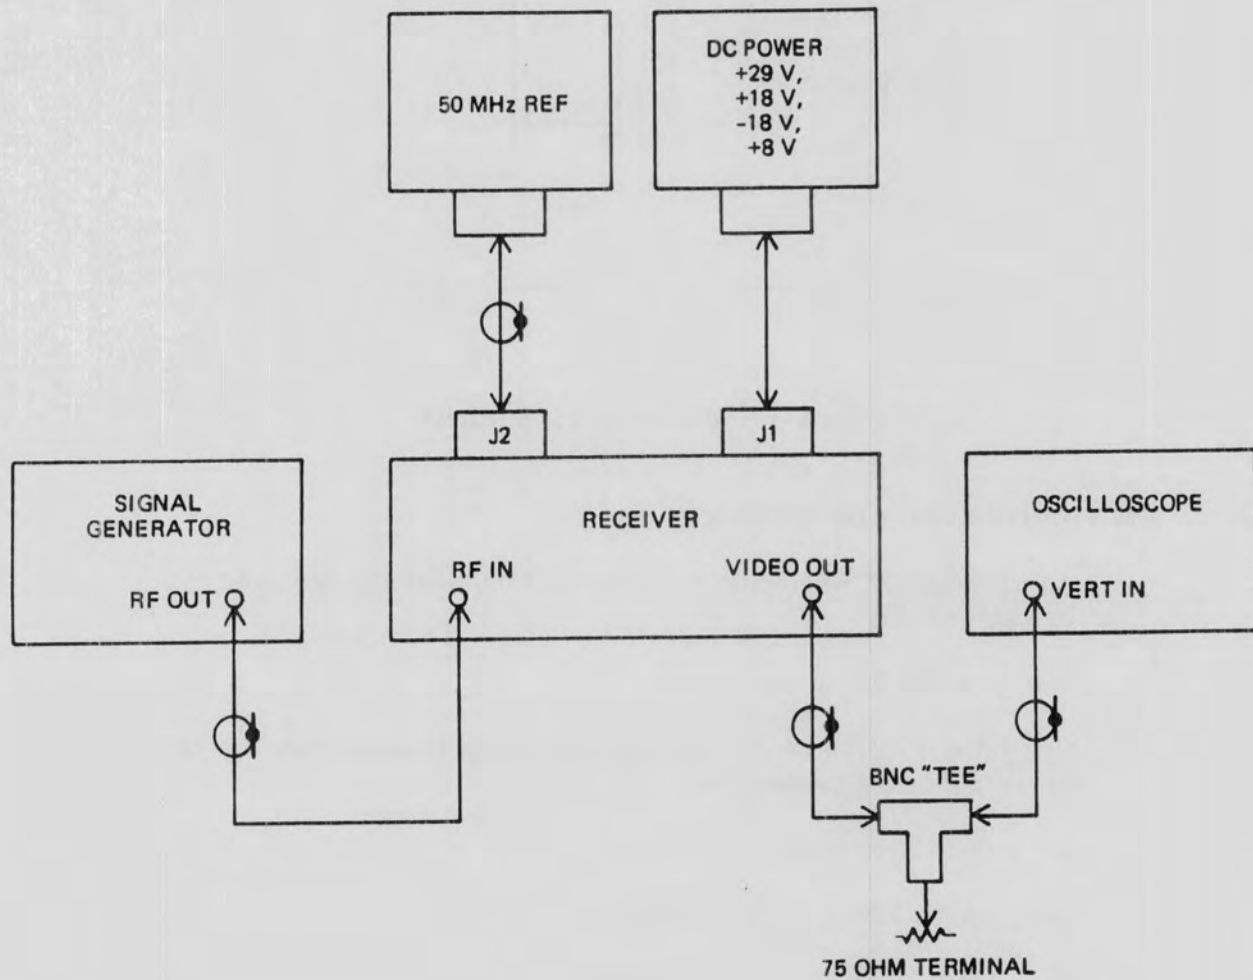

Figure 4-17. FM Video Level Adjustment Equipment Setup
1. Remove the IF Demodulator cover and connect the receiver as shown in **Figure 4-17**.